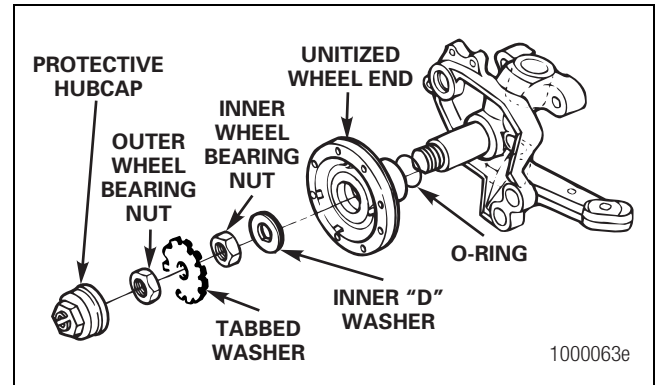

Figure 13.13
- **If the total movement of the dial indicator is 0.003-inch (0.08 mm) or greater:** Remove the outer bearing nut and tabbed washer. Tighten the inner wheel bearing nut to 500-700 lb-ft (679-949 N•m) while rotating the unitized wheel end a minimum of five rotations. Figure 13.13.